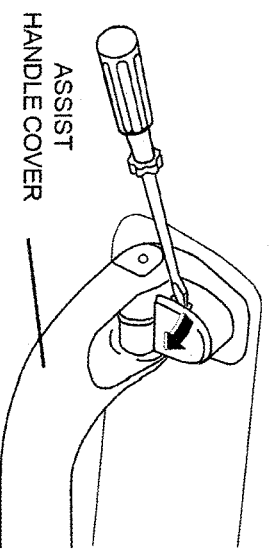

FIGURE 30
- 1.) INSERT A SMALL FLAT TIP SCREWDRIVER INTO THE ASSIST HANDLE NOTCH AND GENTLY PRY TO REMOVE THE TWO ASSIST HANDLE COVERS. (SEE FIGURE 30)